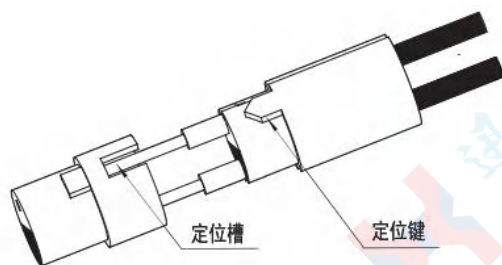

图1.10 压线绝缘子与插针绝缘子相配合
2) Align the locating key of the crimp insulator with the locating slot of the pin insulator, as shown in Figure 1.10.